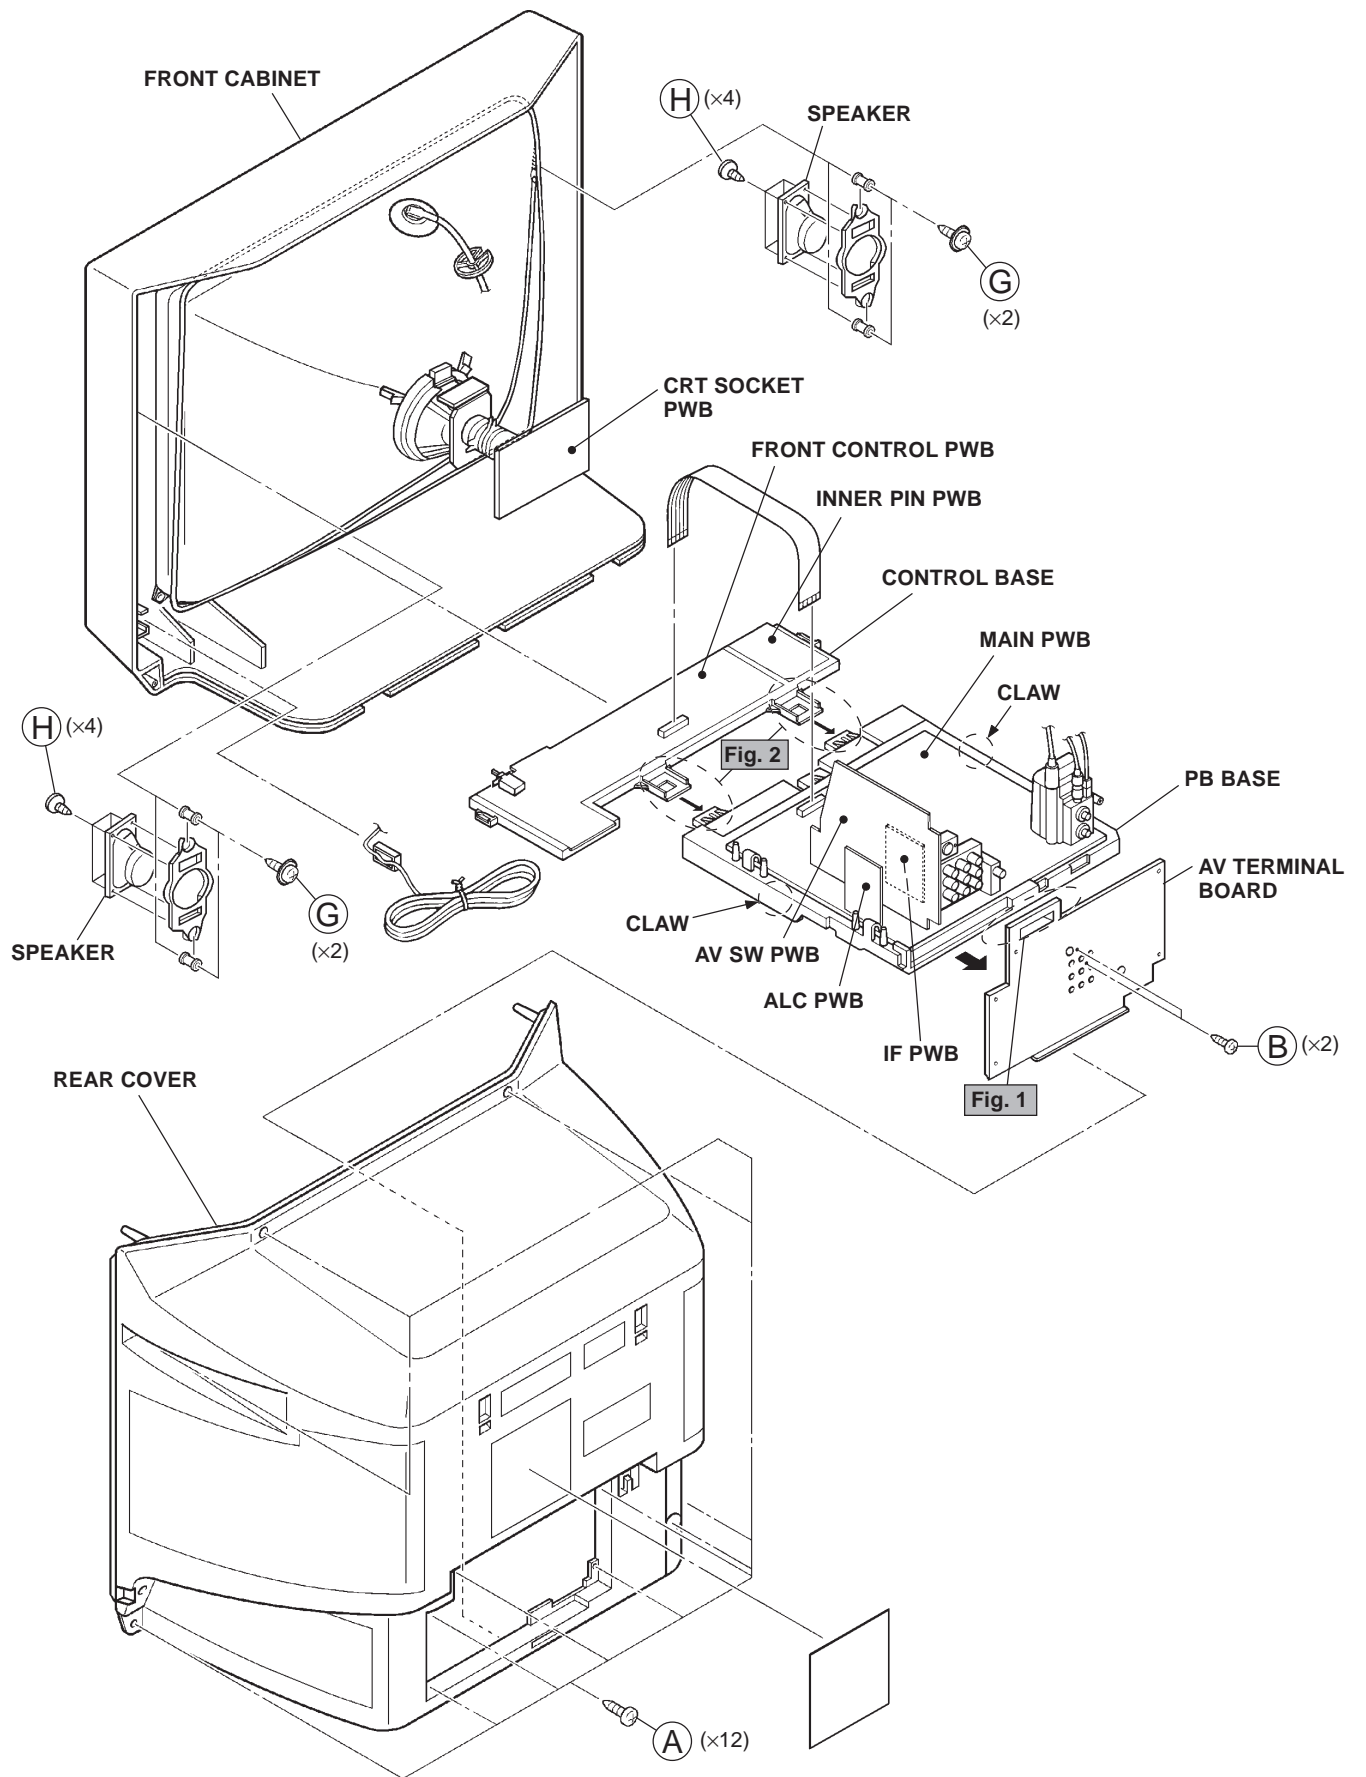

Fig. 3
2. Remove the 12 screws marked "A". (See Fig. 3 on the next page.)
1. Slightly raise both sides of the PB Base by hand and remove the 2 claws under both sides of the PB Base from the front cabinet. (See Fig. 3.)
1. Remove the 2 screws marked "B". (See Fig. 3.)
1. Remove the Speaker block by removing the 2 screws marked "G". (See Fig. 3.)
2. Remove the Speaker by removing the 4 screws marked "H". (See Fig. 3.)